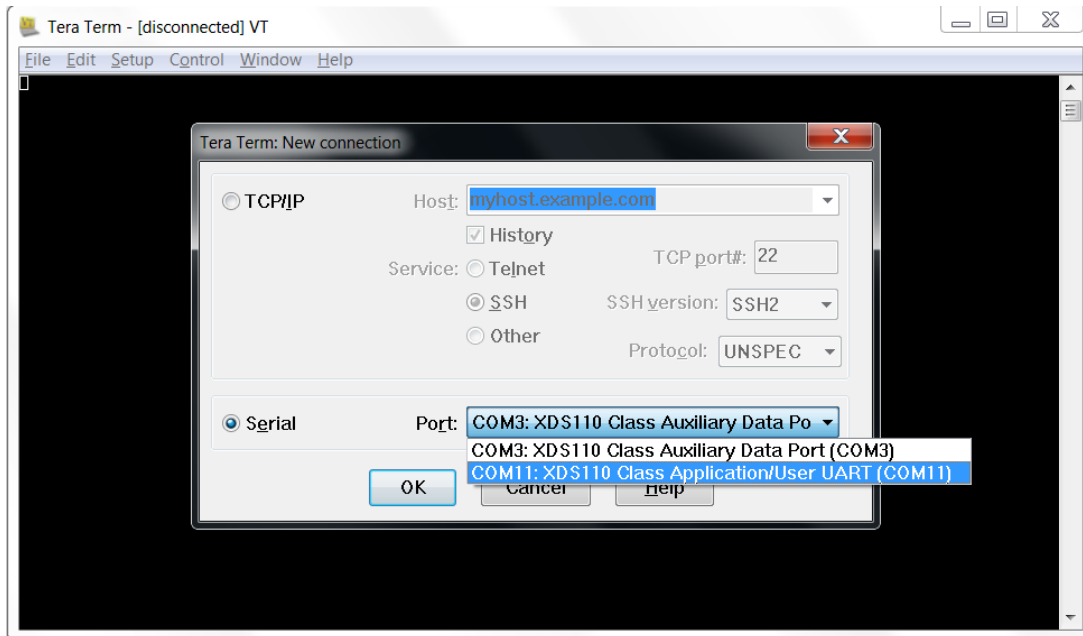

Figure 2. Tera Term New Connection Window
3. Select the Serial Port shown as XDS110 Class Application/User UART (see Figure 2).